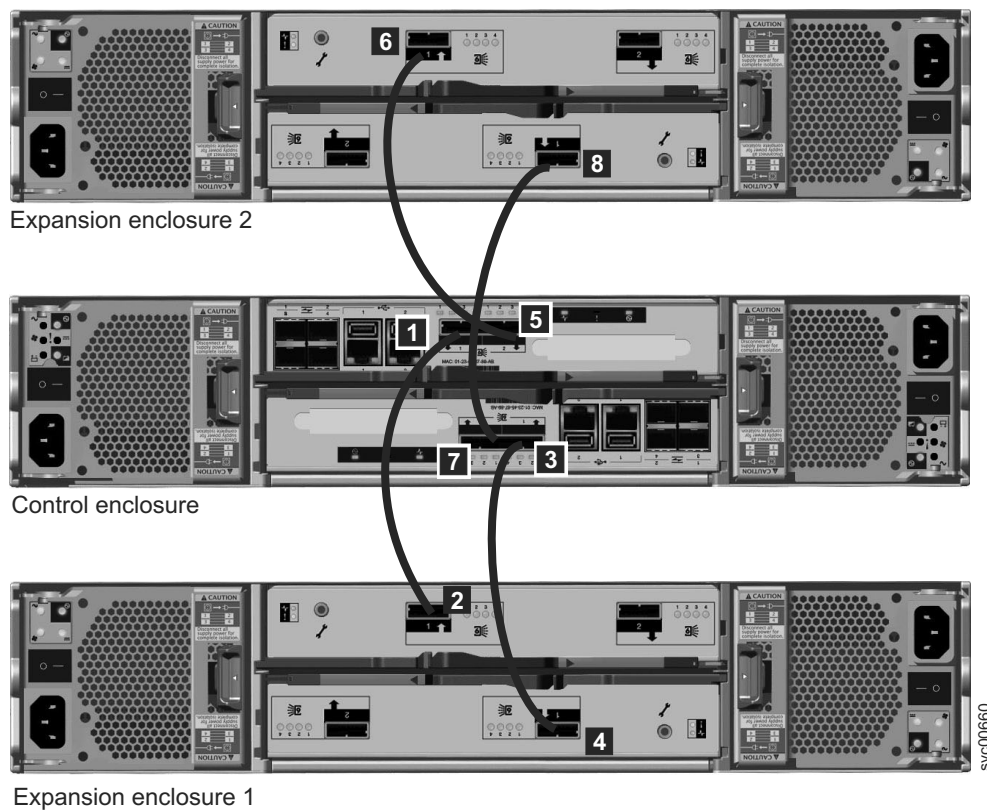

Figure 47. Adding a second expansion enclosure
3. Attach the SAS cables from the control enclosure to the second expansion enclosure as shown in Figure 47. The second expansion enclosure is above the control enclosure.